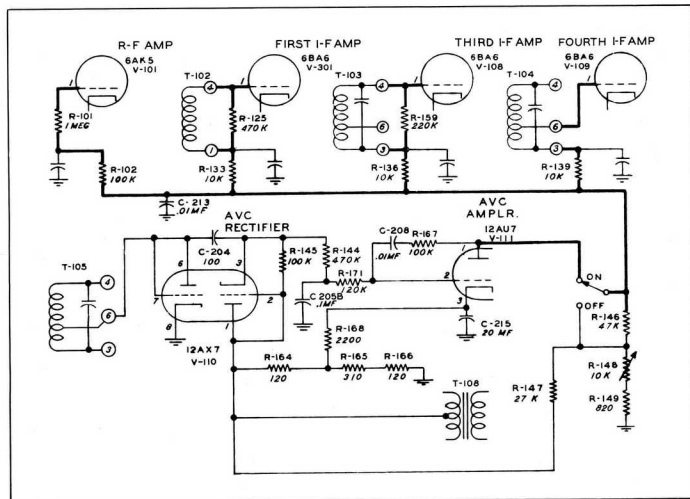

Figure 4-8. 51J-4 A. V. C. Circuit
4. 2. 11. AUTOMATIC VOLUME CONTROL. - The problem of blocking that is created by strong signals or heavy static is eliminated by use of an amplified AVC system and a low impedance AVC line. Refer to figure 4-8. The second triode section of V110 is used as an AVC rectifier to produce control voltage for the AVC amplifier which uses one half of dual triode V111. The AVC voltage that is applied to grids of the controlled tubes is produced when plate current flowing through one-half of AVC amplifier tube V111 causes a voltage drop across resistor R146. Plate voltage for the amplifier half of V111 is obtained from the voltage drop across resistors R165 and R166, which are in series with the center tap of the power transformer to ground. However, V111 will not draw plate current when there is no signal input to the receiver because of approximately 11 volts of bias that is placed upon its grid by the voltage drop through R164. This bias voltage for V111 is taken from the end of R145 through which the